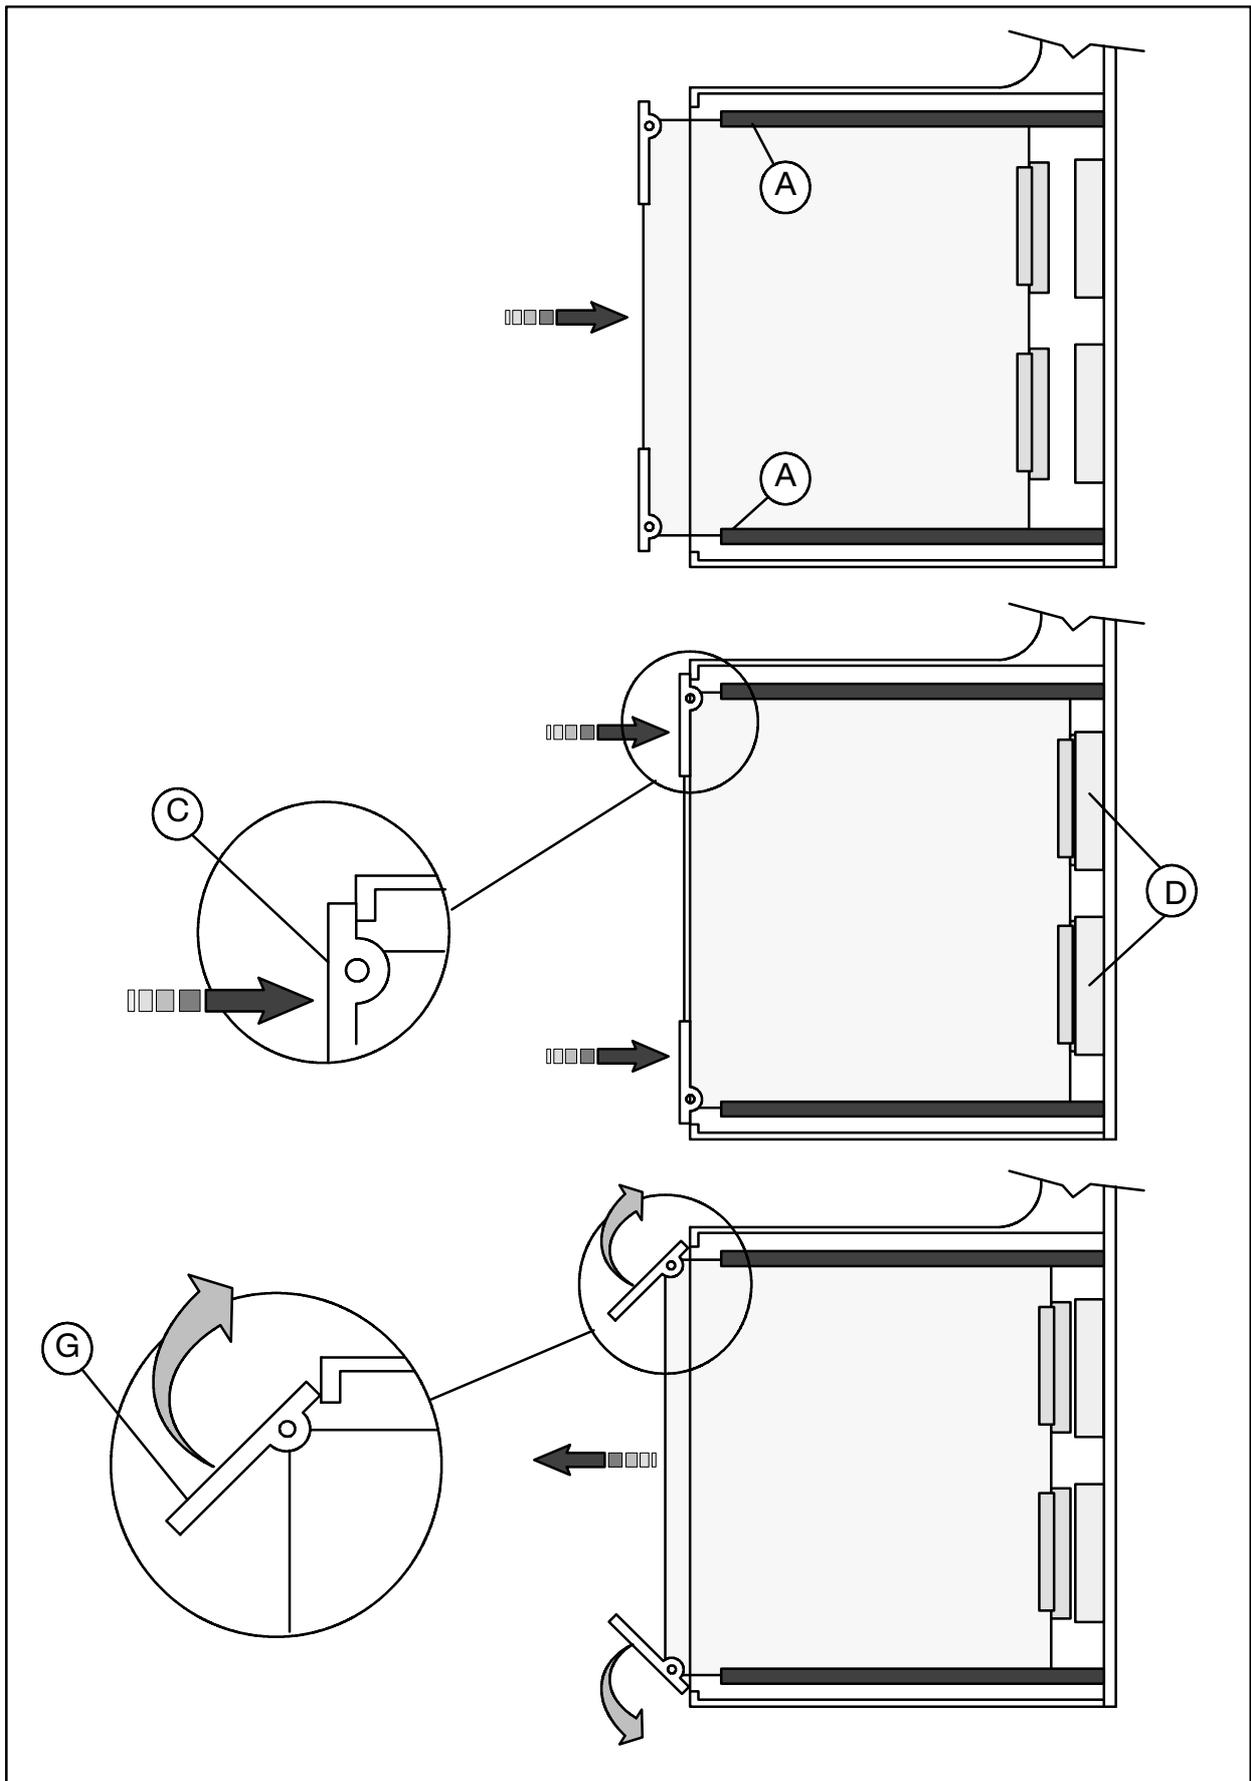

Fig. CK-12 Inserting the plug-in circuit units
- Unit without front panel and with extraction plastic clasps (Fig. CK-12)
1. Insert the unit in the correct position by sliding it into the plastic guides (Fig. CK-12 A).
2. Fully fit the unit pressing the two extraction clasps (Fig. CK-12 C) and make sure that the unit connector is correctly inserted in the subrack connector (Fig. CK-12 D).
3. The unit is extracted by turning the two clasps from the inside towards the outside (Fig. CK-12 G).